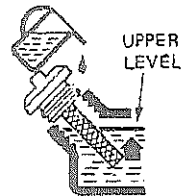

Figure 2- Adding oil
3. Using a funnel, add the appropriate amount of oil into the crankcase. The crankcase is full when the oil level has reached the lower lip of the opening where you have just poured the oil into (see figure 2).